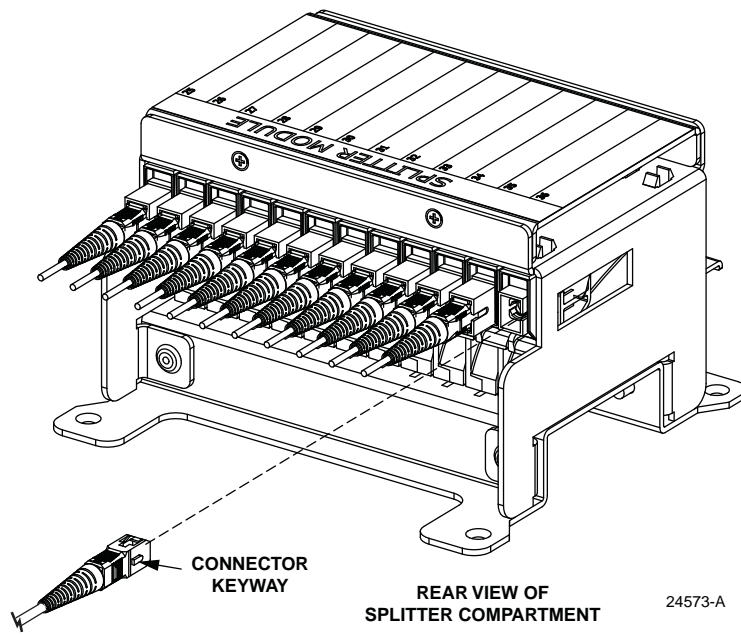

Figure 34. Feeder Cable Connector
8. Insert the feeder fiber connector into the appropriate bulkhead adapter (remove dust cap from adapter) at the rear of the splitter compartment as shown in Figure 34.